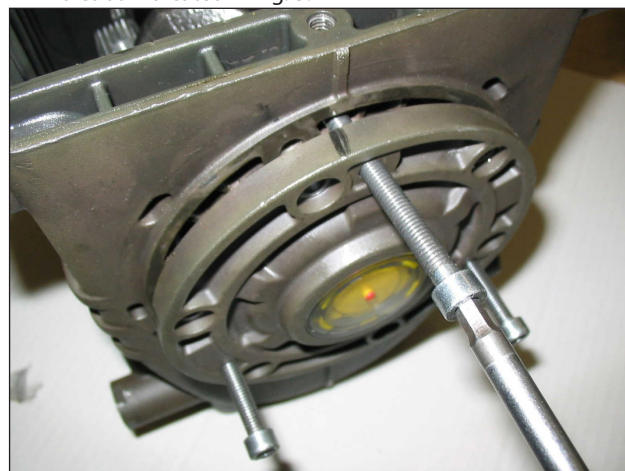

Fig. 3
- the lateral covers using for the extraction No. 3 fully threaded screws M6x50 inserting them in the threaded holes as indicated in Fig. 3.